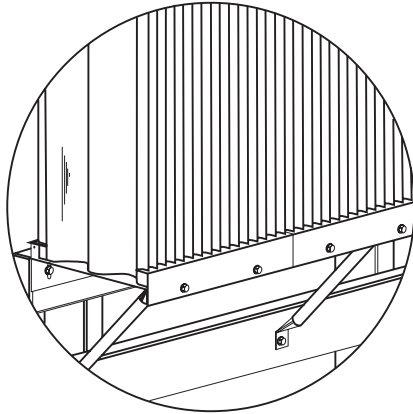

Figure 8
7. Install the 12" or 15" Light Trap Profile **Retainers** on the Light Trap Top and Bottom panels to hold the profiles in place as shown in Figures 8 and 9. This should be done periodically while installing the profiles.